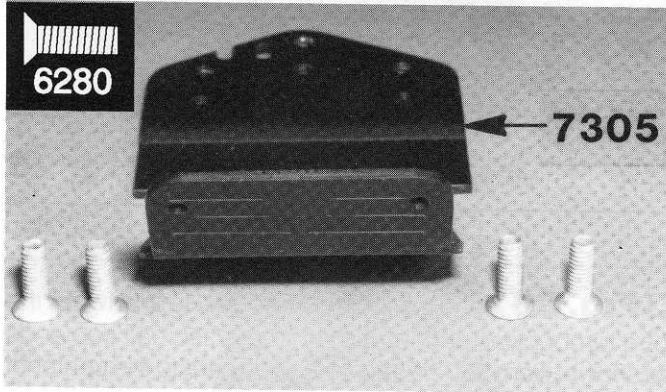

**Fig. 16**
**□ Fig. 16** The rod ends can be removed quite easily from the balls by holding the rod end with a pliers, as shown, and twisting the rod end off the ball, as shown.